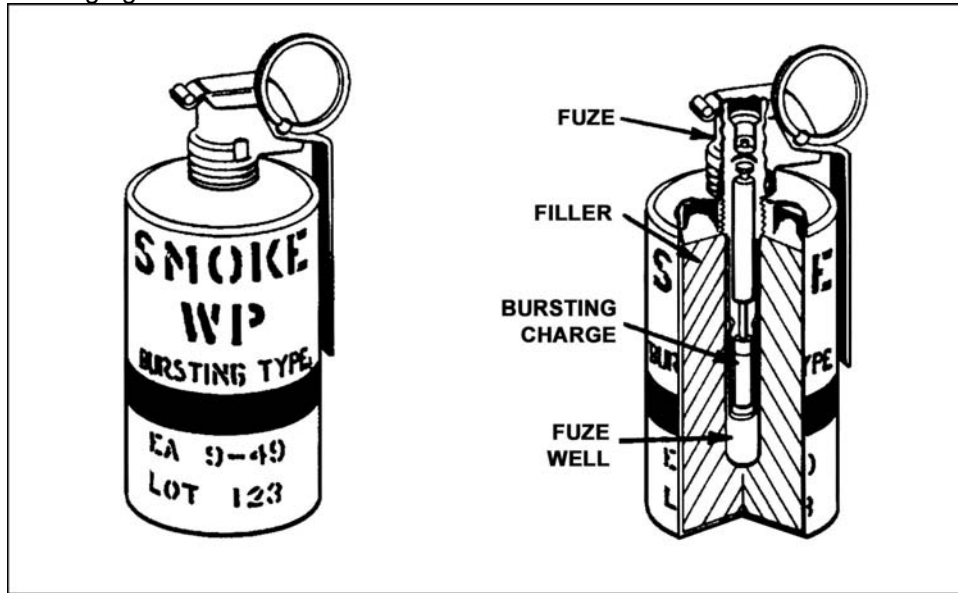

Figure 9. M15 WP smoke hand grenade.
- e. M15 White Phosphorous (Figure 9). The M15 grenade is a bursting type grenade with a bursting radius of 17 meters. The WP filler burns for about 60 seconds at a temperature of 5,000 degree Fahrenheit. This intense heat causes the smoke produced by the grenade to rise quite rapidly, especially in cool climates, which makes the M15 grenade less desirable as a screening agent.